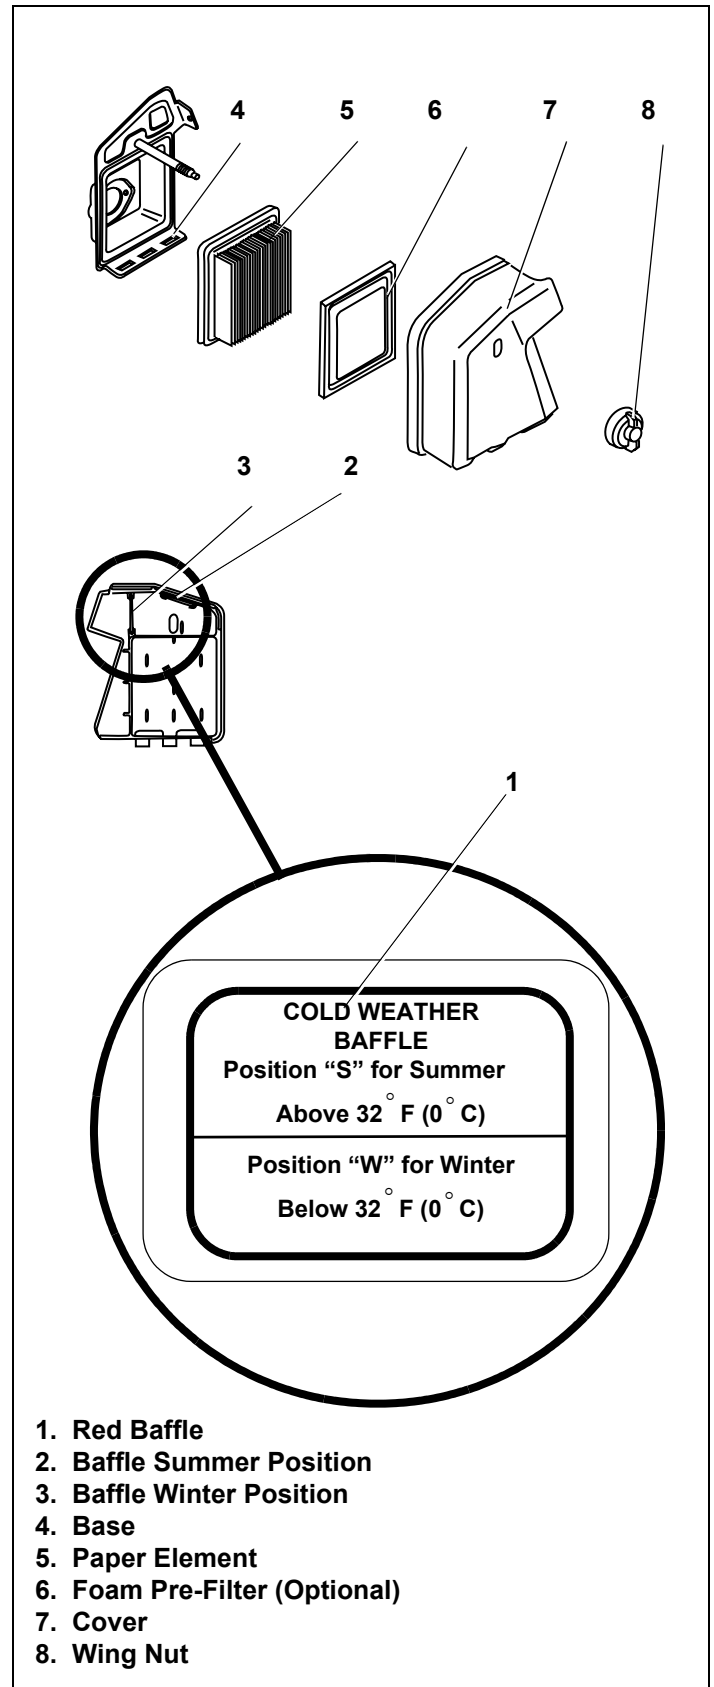

Figure 45. Type “D” Climate Guard Air Cleaner Assembly
1. Remove wing nut and cover. See Figure 45.
1. Remove wing nut from air cleaner cover. See Figure 45.